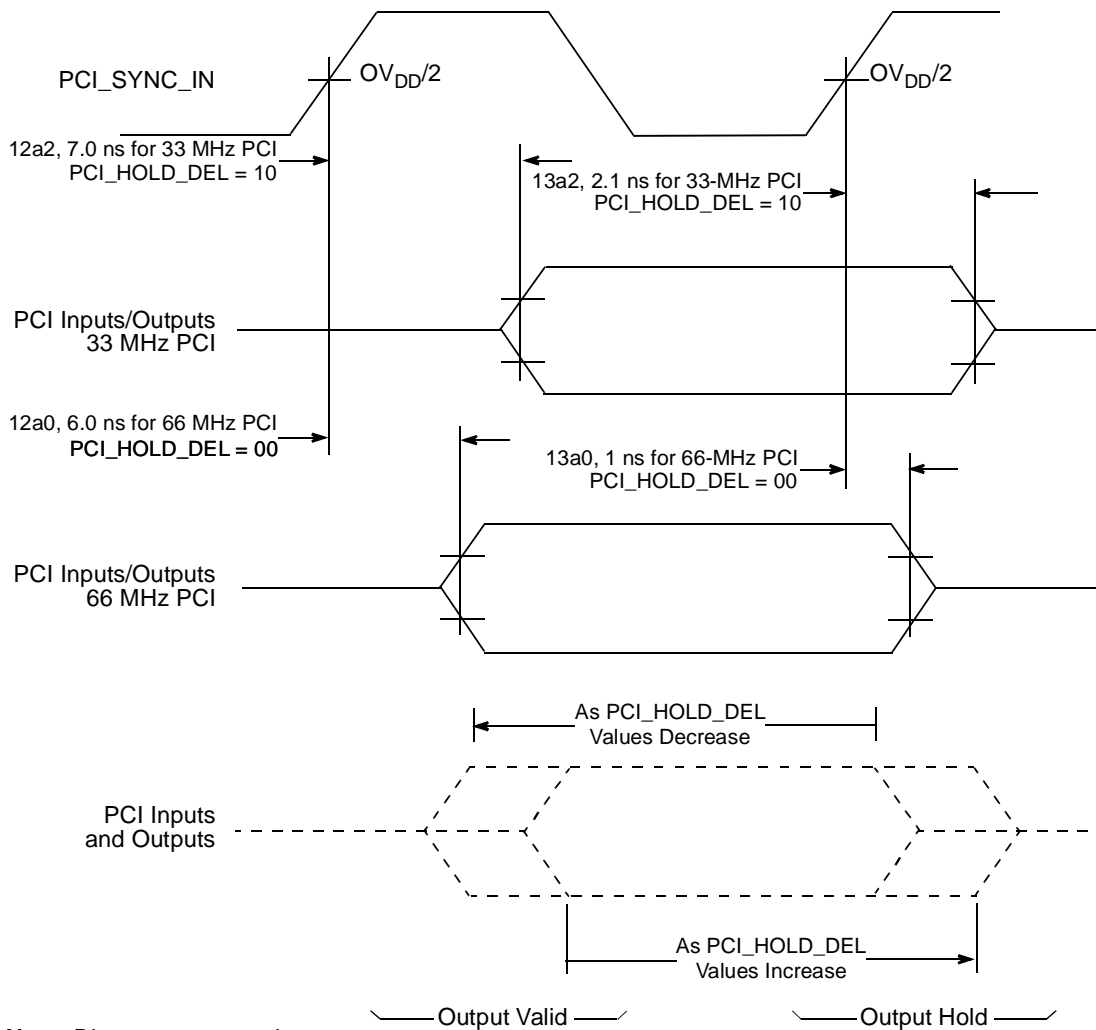

Figure 15. PCI\_HOLD\_DEL Effect on Output Valid and Hold Times
12a	PCI_SYNC_IN to output valid, see Figure 15
13a	Output hold (PCI), see Figure 15
4. To meet minimum output hold specifications relative to *PCI\_SYNC\_IN* for both 33- and 66-MHz PCI systems, the MPC8245 has a programmable output hold delay for PCI signals (the *PCI\_SYNC\_IN* to output valid timing is also affected). The initial value of the output hold delay is determined by the values on the  $\overline{MCP}$  and  $\overline{CKE}$  reset configuration signals; the values on these two signals are inverted and stored as the initial settings of  $PCI\_HOLD\_DEL = PMCR2[5, 4]$  (power management configuration register 2 <0x72>), respectively. Since  $\overline{MCP}$  and  $\overline{CKE}$  have internal pull-up resistors, the default value of  $PCI\_HOLD\_DEL$  after reset is 0b00. Further output hold delay values are available by programming the  $PCI\_HOLD\_DEL$  value of the  $PMCR2$  configuration register. Figure 15 shows the  $PCI\_HOLD\_DEL$  effect on output valid and hold times.
Figure 15 provides the PCI\_HOLD\_DEL effect on output valid and hold times.